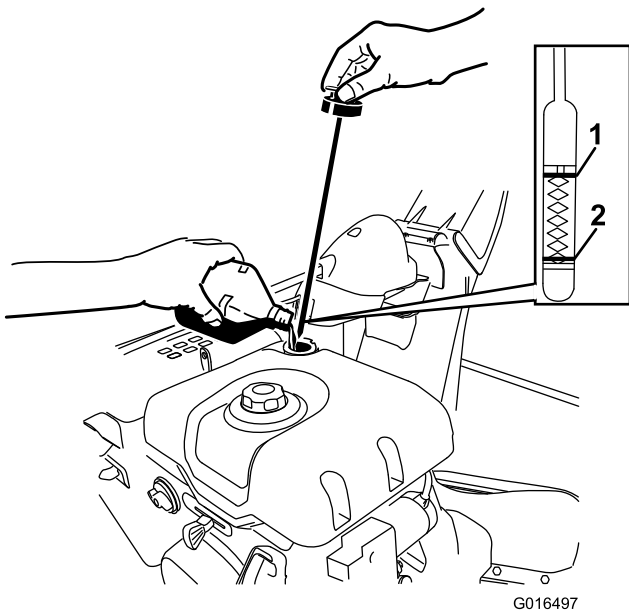

Figure 42
2. Remove the dipstick and check the oil level (Figure 42). If the oil level is below the Add mark